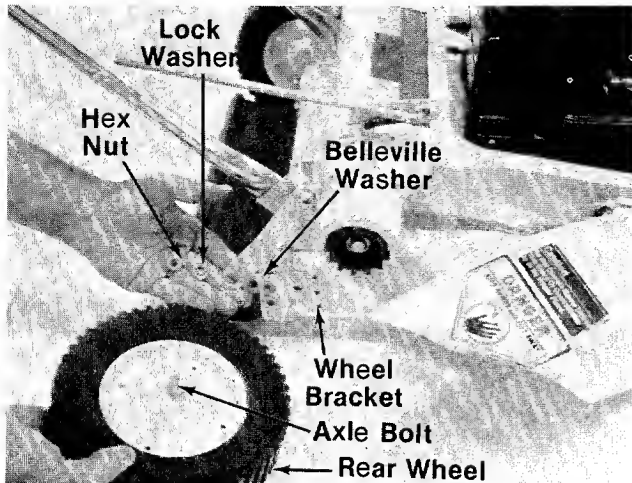

FIGURE 18.
4. Reassemble in selected hole. The belleville washer must be assembled between the link and wheel bracket, with the cupped side of the washer against the deck. See figure 18.